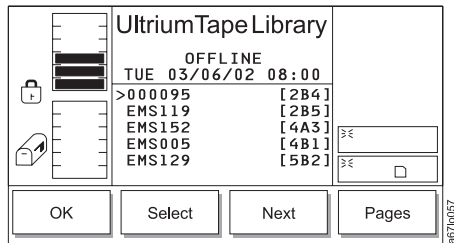

Figure 4-95. Export Select Dialog
5. Press the button below the **Page Up** or **Page Down** softkey to locate the screen that contains the cartridge that you want, then press the button below the **Select** softkey. The selection cursor displays beside the first item on the screen (see Figure 4-95 on page 4-57).